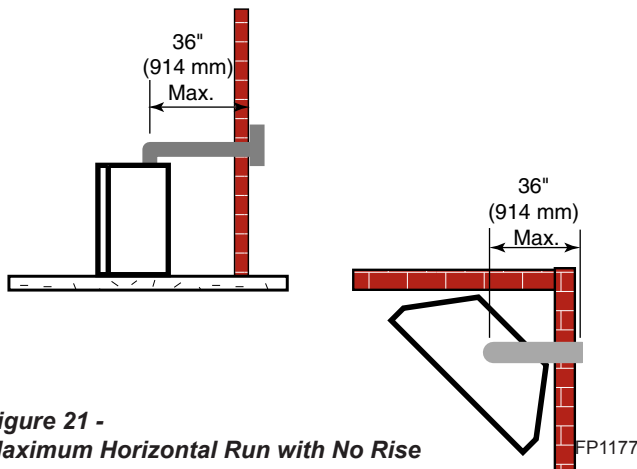
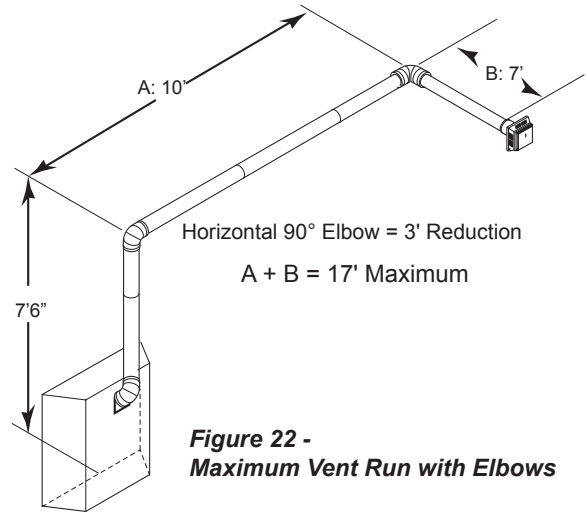

Figure 21 -
Figure 22 -
- If a 90° elbow is fitted directly on top of the fireplace flange, the maximum horizontal vent run before the termination or a vertical rise is 36" (914 mm). *Figure 21*
- If a 90° elbow is used in the horizontal vent run (level height maintained) the horizontal vent length is reduced by 36" (914 mm) (Fig. 21 A and B) This does not apply if the 90° elbows are used to increase or redirect a vertical rise. *Figure 22*
In Figures 22 and 24, Dimension A plus B must not be greater than 17' (5.2 m).